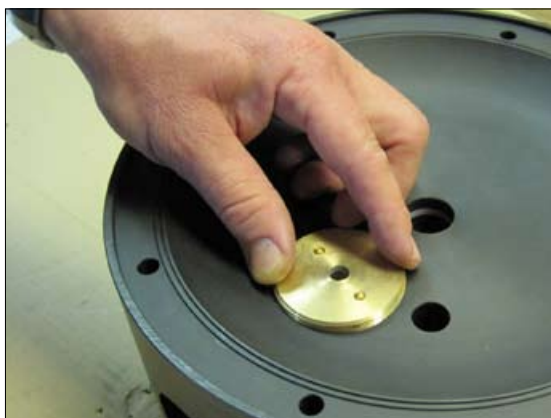
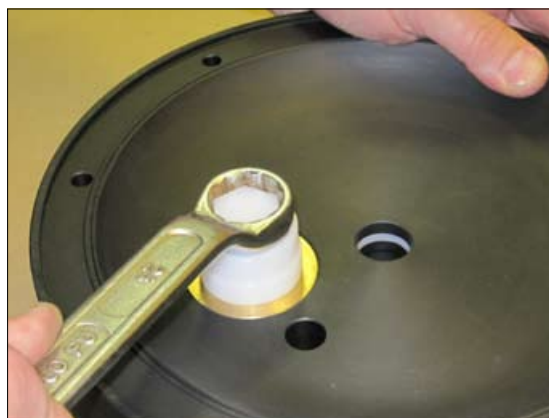

Fig 8.3. Carefully screw the endcap by hand into the centerblock (123). Sometimes you have to first screw counter clockwise until the threads match.
Fig 8.4. Tighten carefully by means of the mounting tool (pos 282) and a spanner.
Fig 8.8. Carefully mount the piston and shaft by hand. Repeat steps Fig 8.3 and Fig 8.4 on the remaining side. Carefully secure the endcaps equally on both sides.
Fig 8.4. Put on the air valve plate (271) on one side of the centerblock (122) and mount with the screws (2711). Push the air valve from the other side as described in fig 8.2.